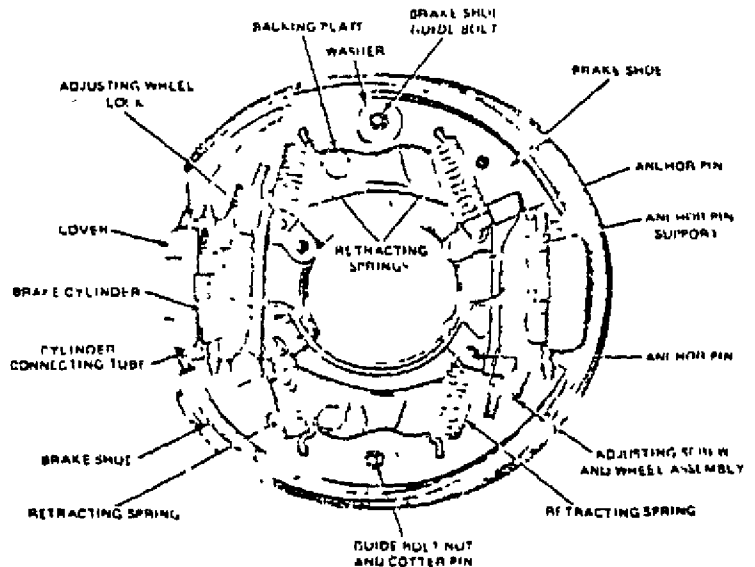

FIG 4 Two Cylinder Brake—Rear—P-500
- 3 Place the brake shoe against the backing plate, insert the ends in the brake cylinder links, and install the shoe guide bolt washer and nut (Fig. 4). Finger tighten the nut, then loosen it one full turn and install the cotter pin.